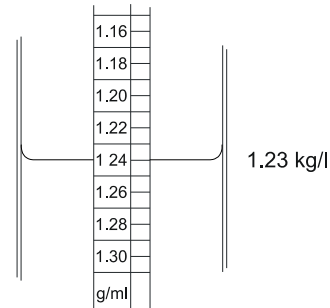

Figure 6-8. Measuring Electrolyte Specific Gravity
- Read the value as indicated in Figure 6-8.